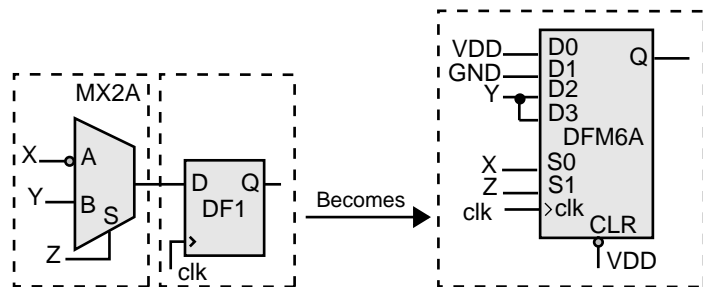

Figure 3-5. Logic Reduced to One Sequential Module
- It combines the new combinational macro from step 2 with the basic sequential macro from step 1. For example, "MX2A" and "DF1" are combined into a D type flip-flop with 4 input multiplexed data, active low clear, and active high clock "DFM6A." The total number of logic modules is further decreased to one sequential module, shown in Figure 3-5.